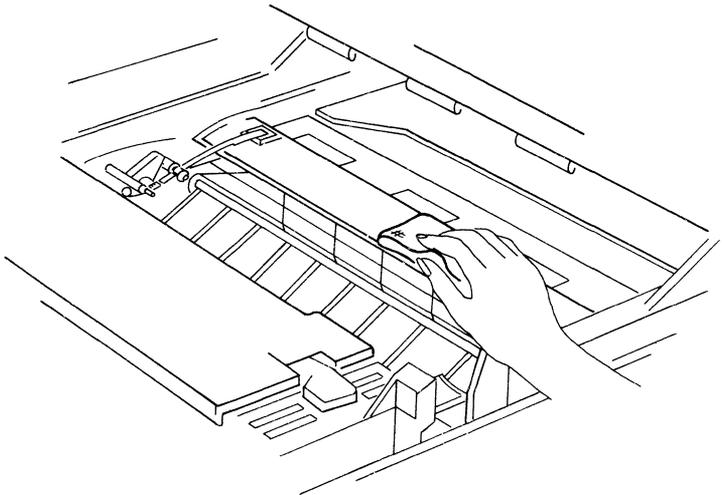

Figure 8: Cleaning the Transfer Guide
2. Moisten a cloth and wipe the transfer guide clean (Figure 8).